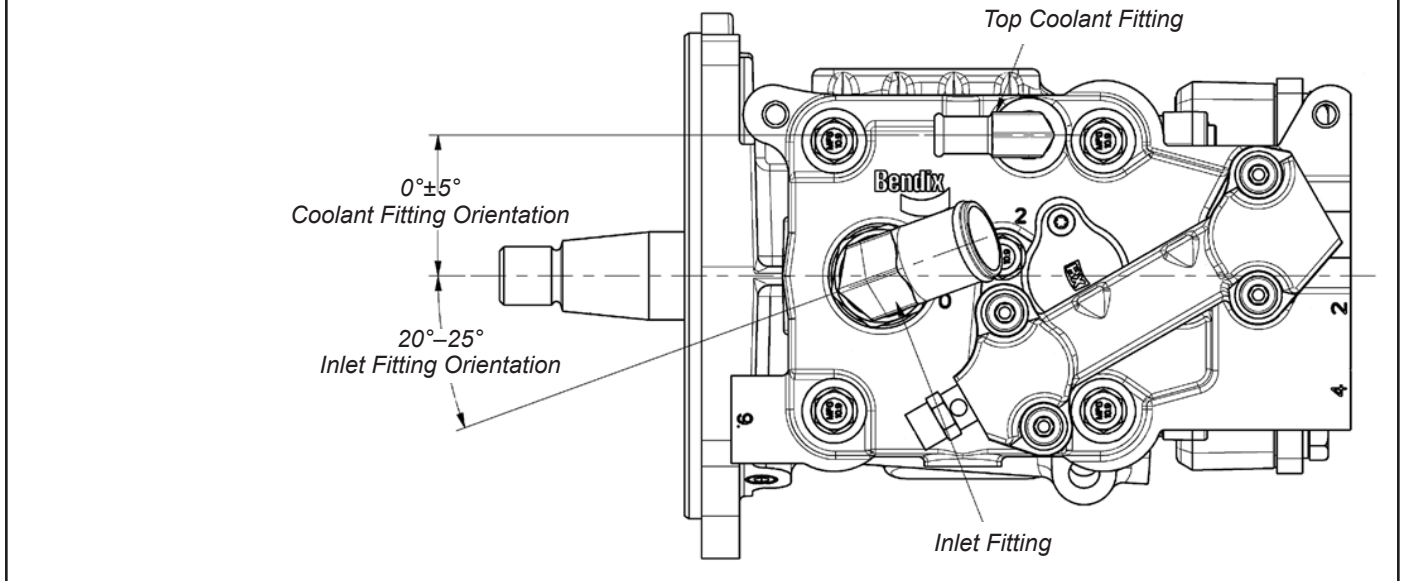

FIGURE 12 - REQUIRED ORIENTATION OF THE INLET AND TOP COOLANT FITTINGS
Option 1: M16 x 1.5–6g (ISO 9974) fitting. Back off lock nut as far as possible. Screw fitting into port until the leading surface of the lock nut contacts the face of the port. Light wrenching may be necessary. To align the tube end to the position as defined in Figure 12, unscrew the fitting by the required amount, but not more than one full turn. Using two wrenches, hold fitting in desired position and tighten locknut to 319–354 in-lbs (36–39.5 N•m).
Next, install the inlet fitting (35) into the inlet port of the compressor. Back off the lock nut as far as possible. Make sure the back-up washer is not loose and is pushed up as far as possible. Screw fitting into port until the back-up washer contacts the face of the port. Light wrenching may be necessary. To align the tube end to the position as defined in Figure 12, unscrew the fitting by the required amount, but not more than one full turn. Using two wrenches, hold fitting in desired position and tighten locknut to 575–633 in-lbs (65–72 N•m).
PART FOUR: DISCHARGE JUMPER ASSEMBLY INSTALLATION (REFER TO FIGURE 12)
(Refer to Figure 12 for Orientation)
Piece No. K108817 (Refer to Figure 12 for Orientation)